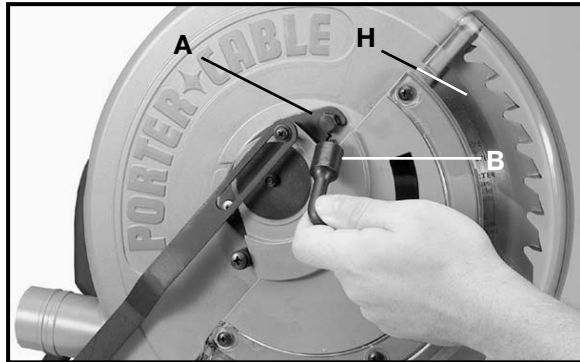
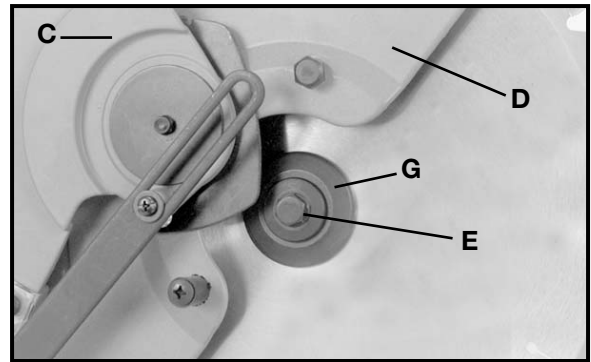
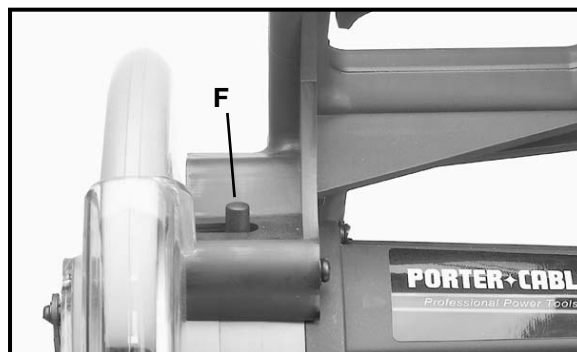

Fig. 46
Fig. 47
Fig. 48
3. Loosen screw (A) Fig. 46, with wrench (B) (provided).
4. Rotate arbor cover (C) Fig. 47, and lower guard (D) Fig. 47, to the rear, exposing arbor screw (E).
5. Remove arbor screw (E) Fig. 47, by turning screw clockwise with wrench (supplied), while at the same time, pressing in on arbor lock (F) Fig. 48, to keep the arbor from turning. Remove outside blade flange (G) Fig. 47, and saw blade (H) Fig. 46. **DO NOT REMOVE INSIDE BLADE FLANGE.**
6. Attach the new saw blade **MAKING CERTAIN TEETH OF SAW BLADE ARE POINTING DOWN AT THE FRONT**, and attach outside blade flange (G) Fig. 47. Check to see that the flats on outside blade flange are engaged with flats on arbor shaft.
7. Thread arbor screw (E) Fig. 47, into saw arbor by turning screw (E) counterclockwise as far as possible by hand. Then tighten arbor screw (E) with wrench supplied while at the same time pressing in on arbor lock (F) Fig. 48, to keep arbor from turning.
8. Rotate arbor cover (C) Fig. 47, and lower guard (D) to the front and tighten screw (A) that was loosened in **STEP 3.**